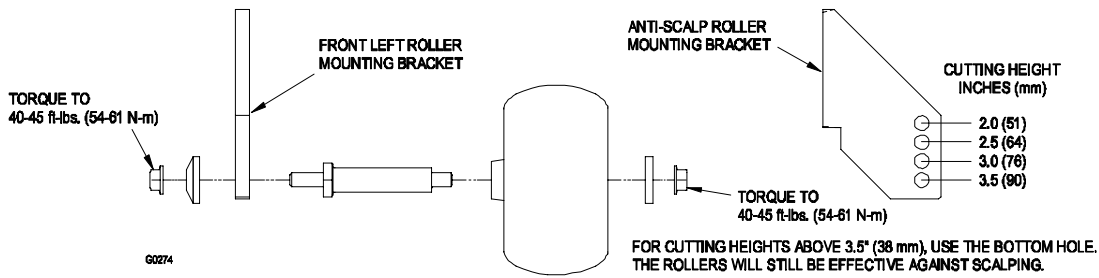
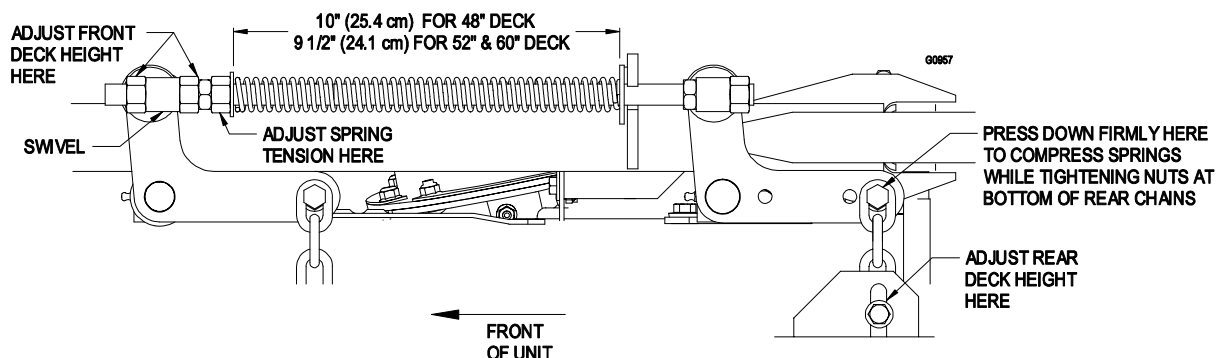

FIGURE 6
FIGURE 7
- g) Adjust anti-scalp rollers for Normal Operating Conditions. Stop engine, wait for all moving parts to stop, and remove key. Engage parking brake. Place rollers in one of the positions shown in Figure 6. Rollers will maintain 3/4 in. (19 mm) clearance to the ground to minimize gouging and roller wear or damage.
- e) Raise the deck to the 4.5" (11.4 cm) height position and take as much force as possible off of the two large deck lift springs by loosening the nuts at the front of each spring. See Figure 7.
- g) Loosen the two (2) bottom chain bolts in slots at the rear of the cutting deck. Loosen four (4) nuts which secure front swivels (two per side), until front chains are loose and front of deck is supported by the 1-1/8" (2.9 cm) block. Do not loosen front chain hardware.
- h) When hardware is loosened, remaining tension in the large support springs will tend to rotate the deck lift handle up, out of the 1 1/2" (3.8 cm) position. Press down on the rear deck support arm (as shown in Figure 7) to firmly return the deck lift handle to the 1 1/2" (3.8 cm) position. **DO NOT** push on deck lift handle. While continuing to press down, take the slack out of the rear chains and tighten hardware at the bottom of the rear chains. Downward pressure may now be released.
- k) Raise deck lift lever to the 4.5" (11.4 cm) cutting height position (also transport position, See Figure 6. Adjust spring compression until proper distance is obtained between the two washers (See Figure 7) by turning the nut at the front of each spring. Lock nuts in position with jam nuts.